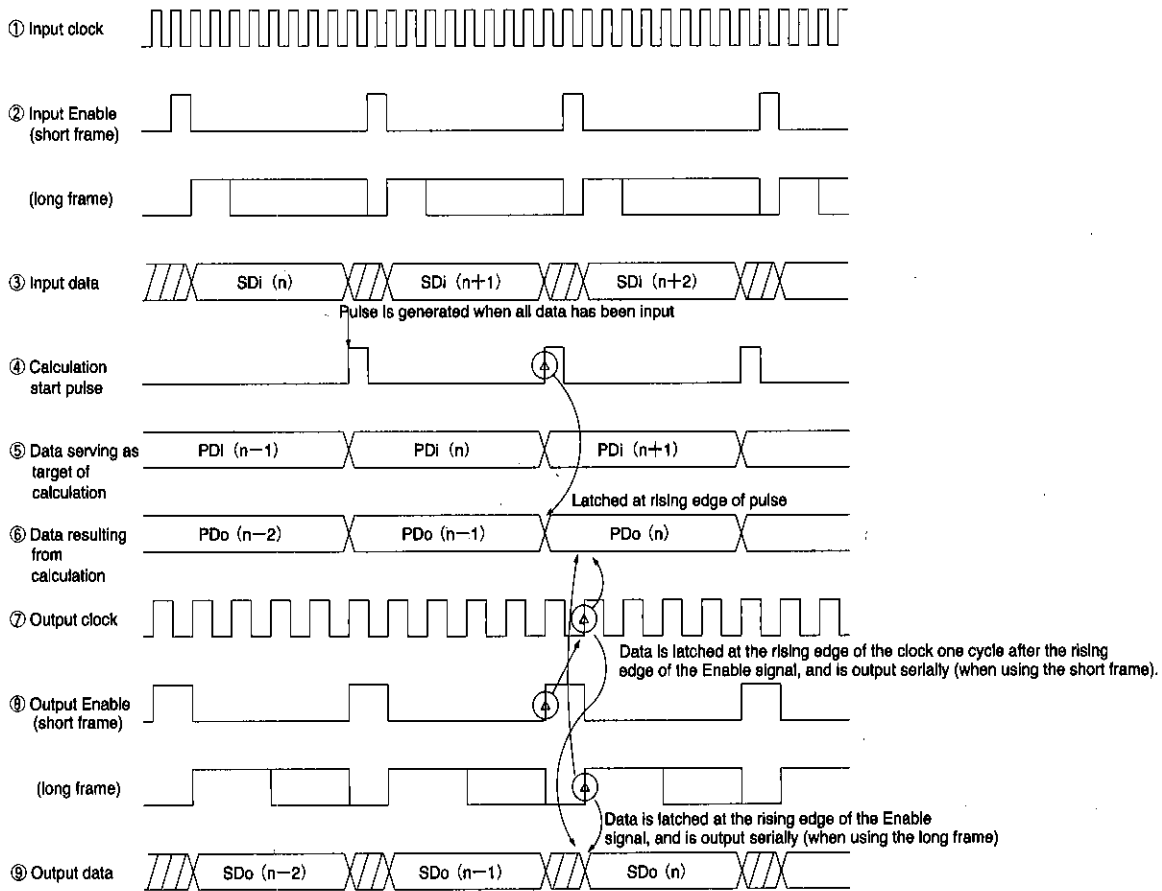

Fig. 21 Data delays for the encoder
In Figures 21 to 24, the timings for items ① to ③ and ⑦ to ⑨ are indicated as seen from the pins, while items ④ to ⑥ show internal signal states. The items are explained below, in numeric order.
- (1) An 8-bit or 4-bit data row is input serially based on the input clock ①, Input Enable signal ②, and input data ③. Figures 21 to 24 show the states for the normal mode only. The timing for the synchronous mode is equivalent to that for the long frame in the normal mode.
- (2) Immediately after the 8-bit or 4-bit data has been input serially at step ①, the calculation start pulse ④ is generated. Also, at this point, the data which is the target of the calculation ⑤, which has been converted from serial to parallel data, is prepared as parallel 8-bit or 4-bit data.
[Supplementary information for Figures 21 ~ 24]
Figure 21 shows the data delays that take place with normal ADPCM calculation for the encoder.
As shown in Figure 21, if the input clock exceeds 64kHz and the output clock exceeds 32kHz, and the Input Enable and Output Enable are in the same phase, a delay equal to two data samplings will occur. Delays occurring under other conditions can also be determined based on Figure 21.